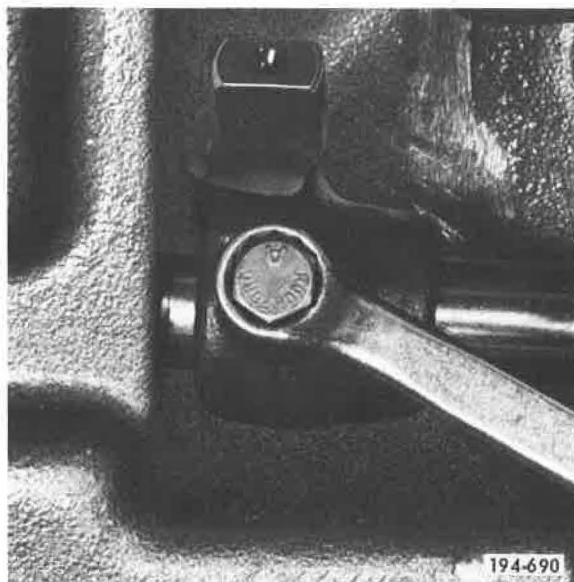

Figure 252. Installing Setscrew
23. Install reverse shifter set-screw, and tighten to 35 to 45 lb. ft. torque. Refer to Torque and Tolerance Table, Item 10. See Figure 252.